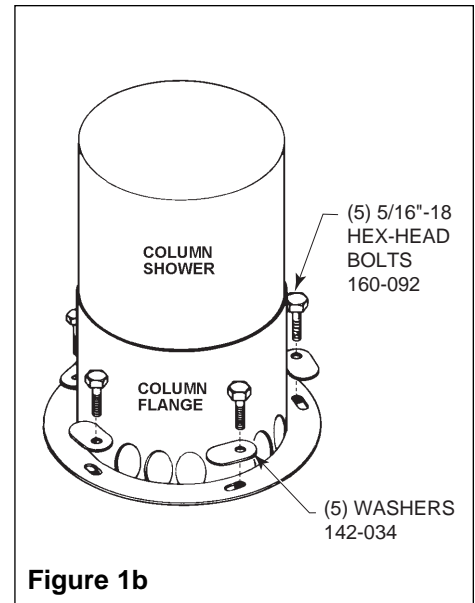

Figure 1b
5. Bolt the shower to the drain with the five bolts (removed in procedure #1) and oval washers provided (see Figure 1b).